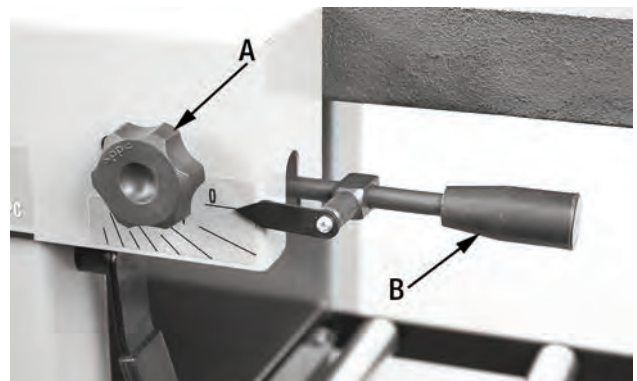

FIGURE 8
1. **Infeed and Outfeed Table Height Adjustment:** The infeed and outfeed tables are adjusted at the factory, and should not need to be adjusted. There is a lock knob (A) Fig.8 and adjustment lever (B) on both the infeed and outfeed sides of the front of the machine. To adjust the height of the infeed or outfeed table:
- a. Loosen infeed table lock knob (A) Fig.8.
- b. Raise or lower the infeed table using the adjustment lever (B).